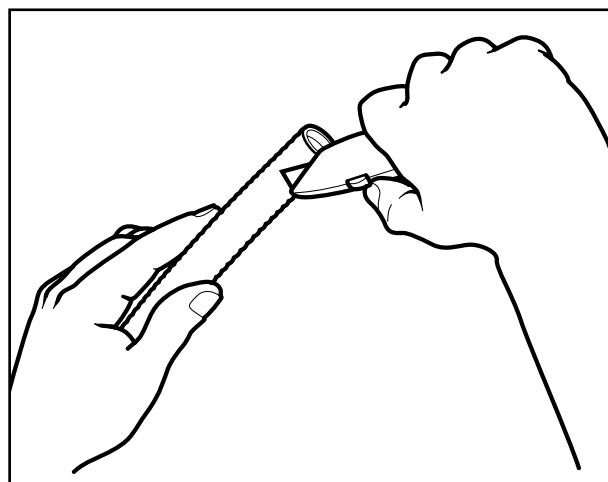

Figure: 4-3
2. STRIP JACKET: Using a utility knife, strip back the jacket. See Table: 4-3 for maximum jacket strip length. Care should be taken to minimize the amount of jacket material removed. Figure: 4-3, 4-4